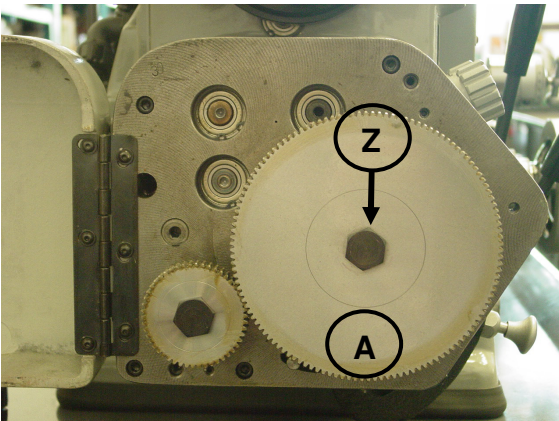

Figure 58-Mounting 127 Tooth Gear
10. Make certain key is in place and remount 127 tooth gear "A" (Figure 58). Tighten bolt "Z" (Figure 58).